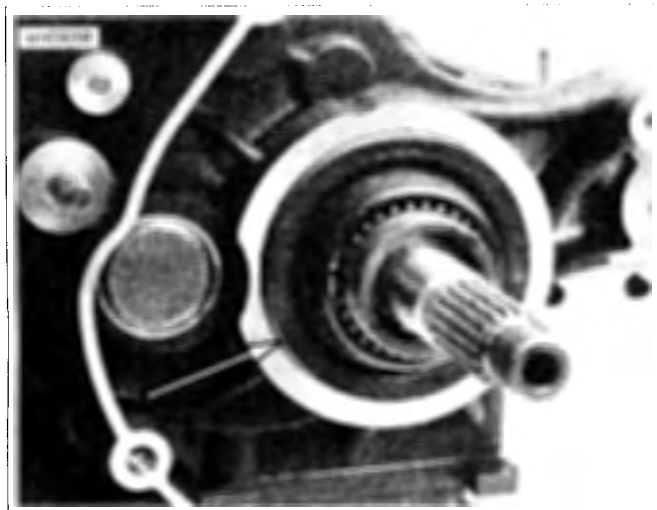

Figure 6-45. Place Main Drive Gear Seal Over Pilot
3. See Figure 6-45. Place seal over pilot with garter spring facing bearing, and position seal squarely in end of crankcase bore.